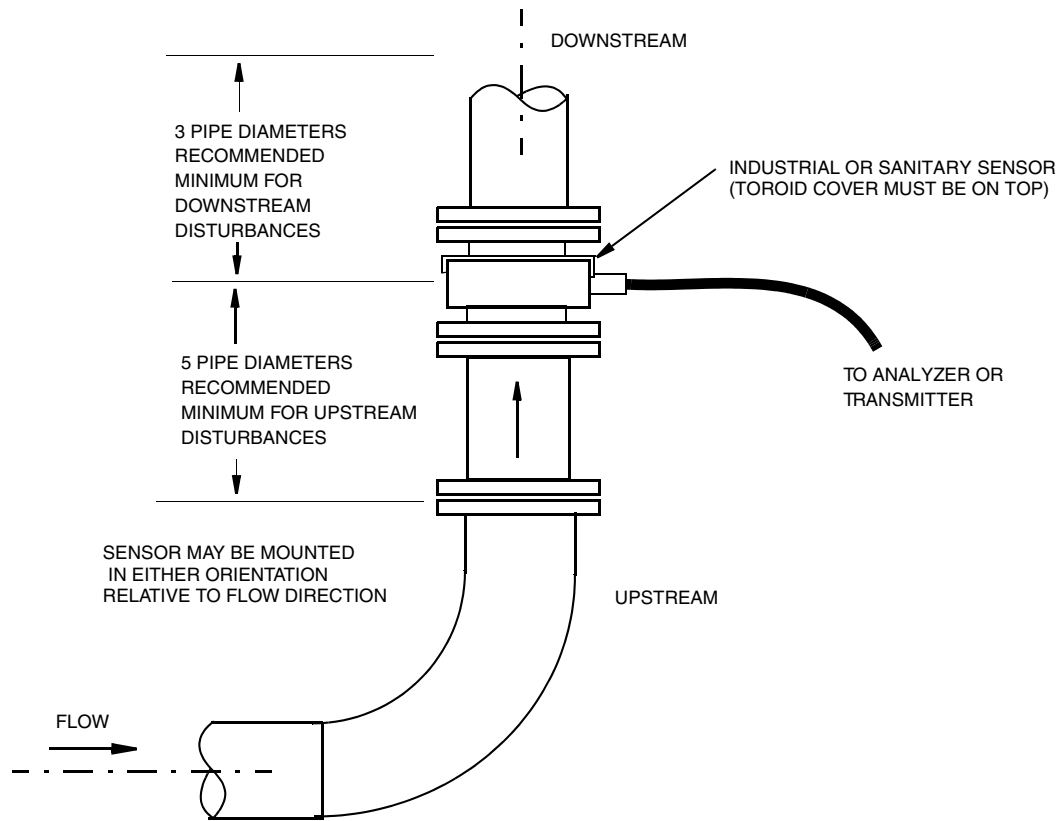
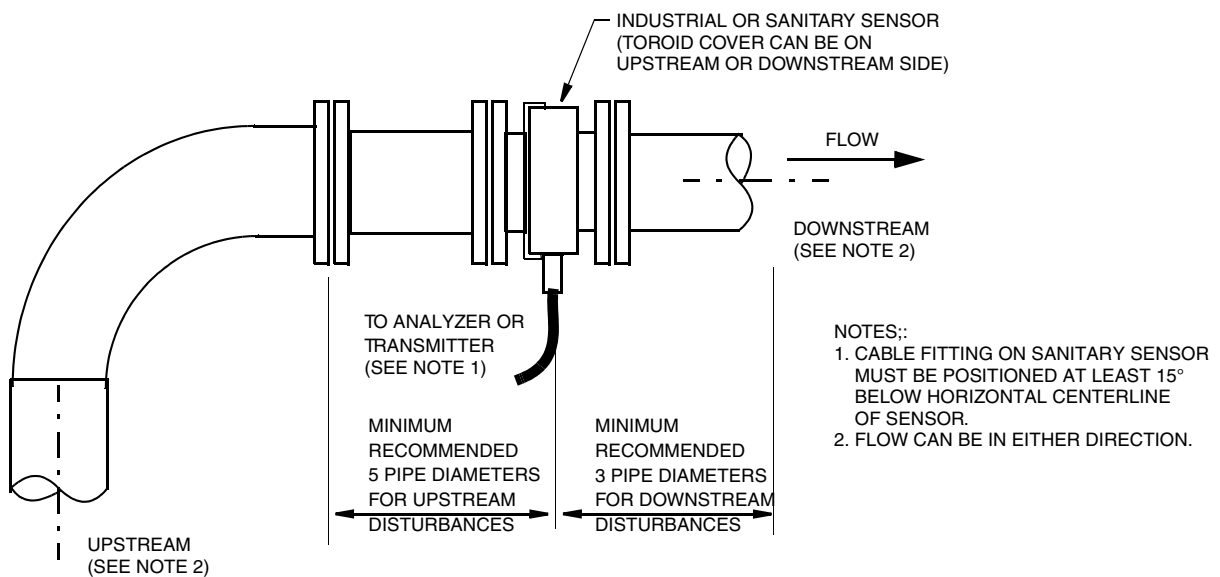

Figure 10. Vertical Mounting of Sensor
Figure 11. Horizontal Mounting of Sensor
- ◆ Flow through the sensor can be in either direction, but upstream/downstream disturbances must be within the guidelines shown in Figure 10 and Figure 11.
- ◆ The mounting orientation of the sensor must be horizontal to vertically “up” with the toroid cover on the top to prevent access of contamination. This is mandatory for sanitary sensors and strongly recommended for industrial sensors. See Figure 10.